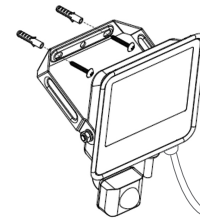

Figure 1.
- Locate the places of the holes on the wall then drill the holes. Insert PC tubes into the holes and fix screws through the bracket holes, make sure the floodlight is tightly fixed onto the wall (figure 1.).